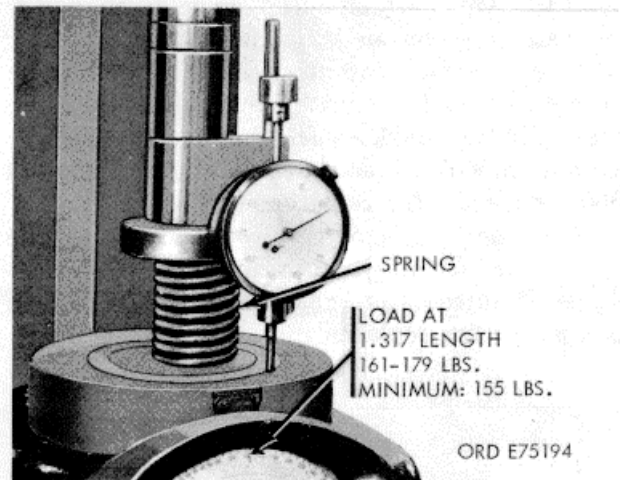

Figure 3-35. Valve spring test.
(5) Check valve guide protrusion to limit of 0.695/0.710 inch.
*h. Valve Springs* (fig. 3-35).